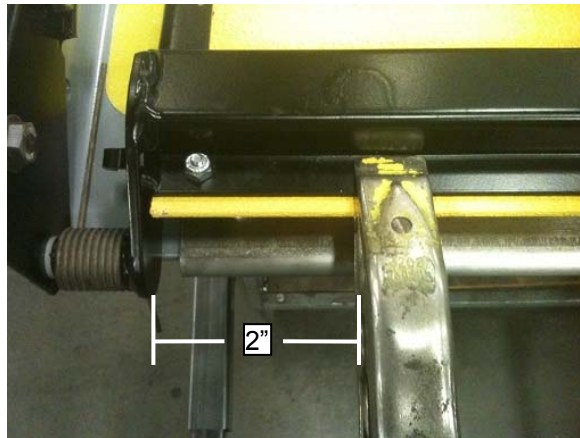

FIGURE 2-12. PLACE CLAMP 2" FROM LH SIDE OF BRIDGEPLATE
- 4.) Refer to **Figure 2-12**. Place a clamp 2" from left side of bridgeplate frame.